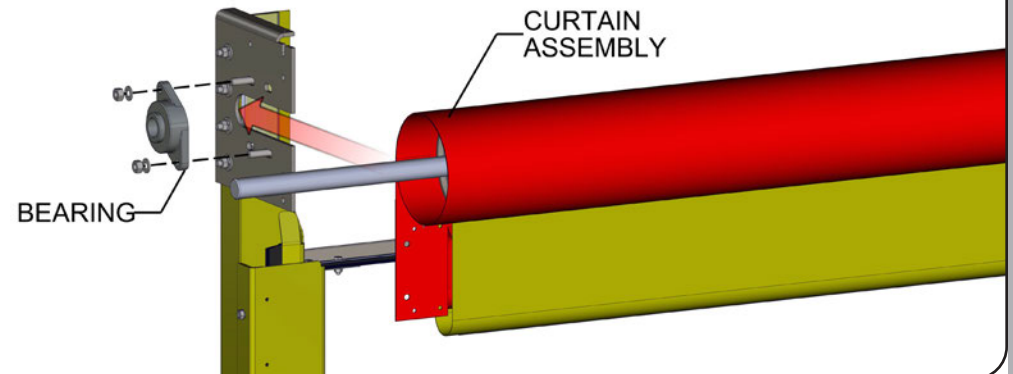

Fig 8
- Lift the curtain assembly using a fork lift or other appropriate lifting equipment and slide it into the slots in the headplates as shown in FIG 8.
- Install wiring per wiring diagram FIG 8-J page 36.
- Wall mounted push button stations to the main Control Panel Fig. 8-J on page 36.